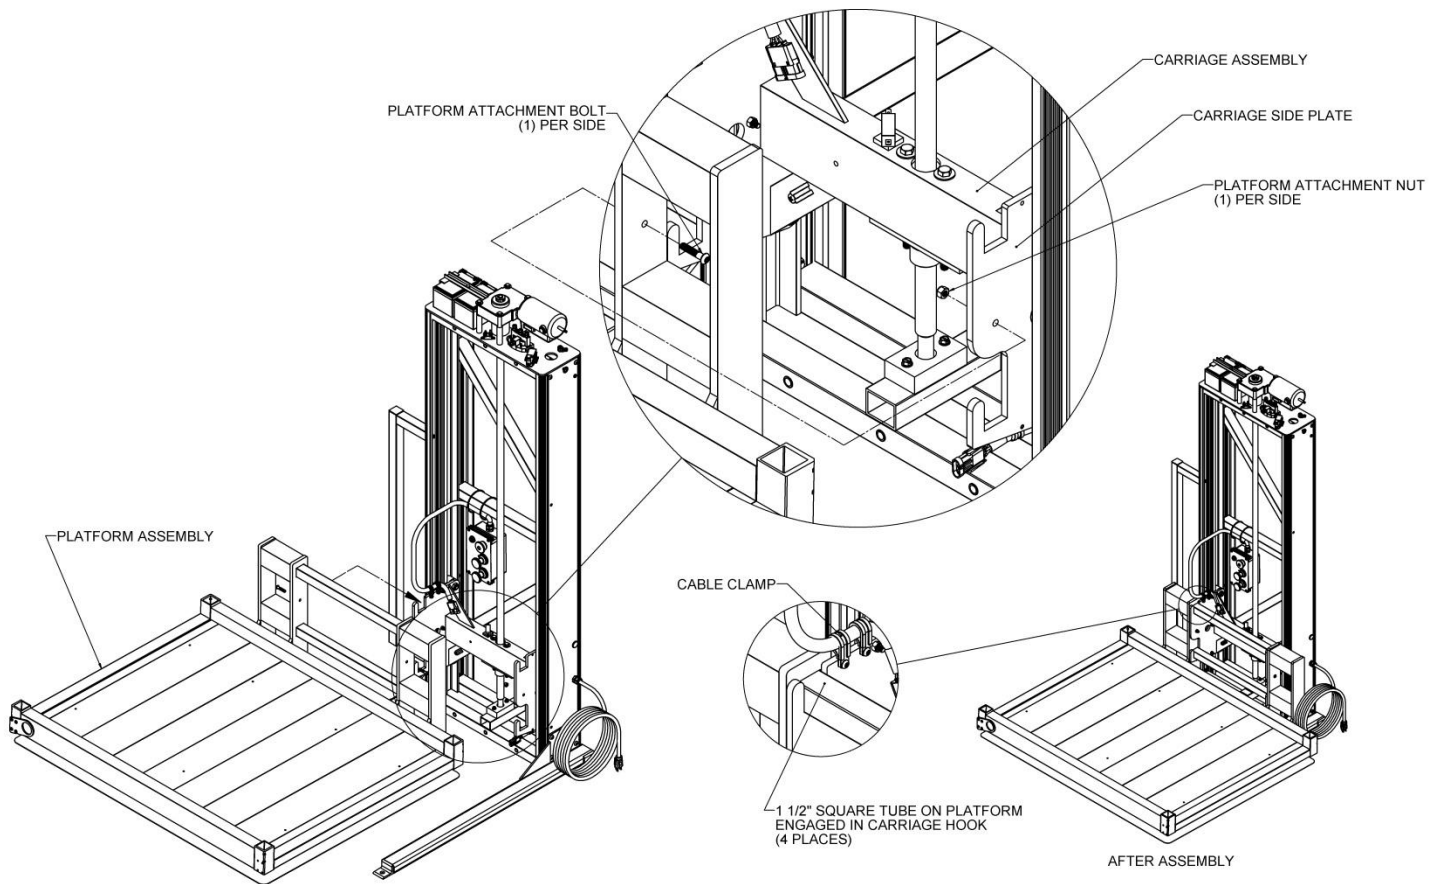

FIG. 4.3
5. Lift the platform assembly onto carriage engaging both 1 1/2" square tubes on the platform to the corresponding hooks in the carriage. Locate the two 5/16"-18 x 1-1/2" attachment bolts and locknuts in the hardware bag and install through the mating holes in the platform assembly and the carriage side plate then tighten securely (FIG. 4.3).